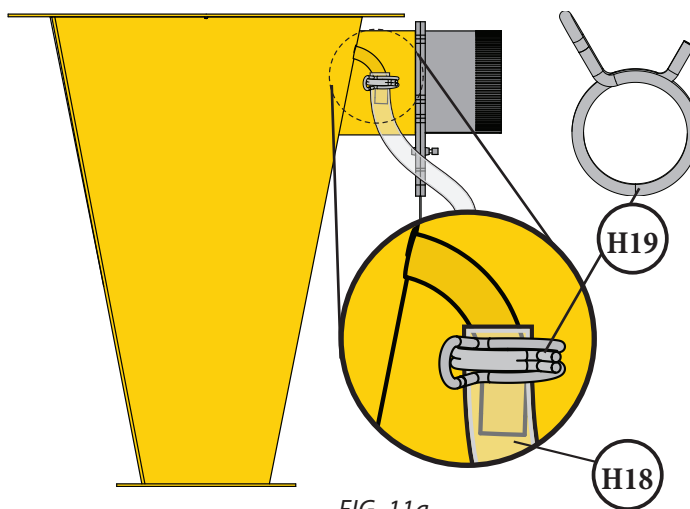

FIG. 11a
Using pliers, squeeze and open the Double Spring Clamp (H19) and slip it onto the shorter end of the Tubing Assembly (H18A). Then, with the clamp still open, slide the Tube Assembly (H18) onto the vent tube near the Cyclone's (E) inlet, closing the Spring Clamp once the hose is fully seated [FIG. 11a].